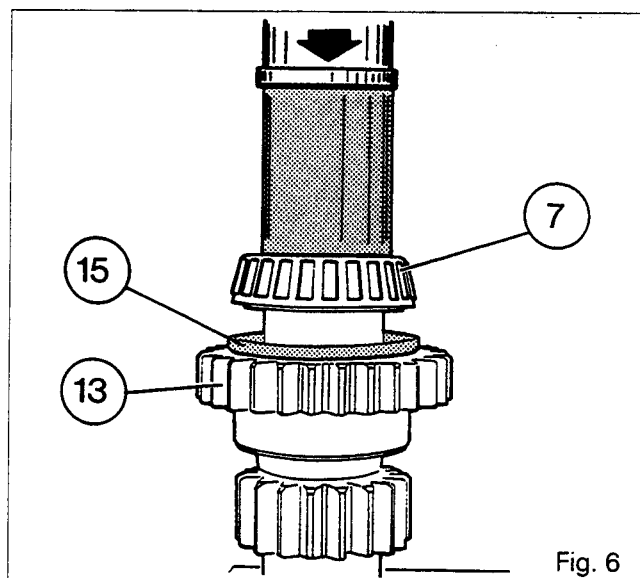

Fig. 6
30. Place the deflector (15) on the pinion (13). Push the bearing cone (7) on as far as the shoulder with the aid of a press (Fig. 6).